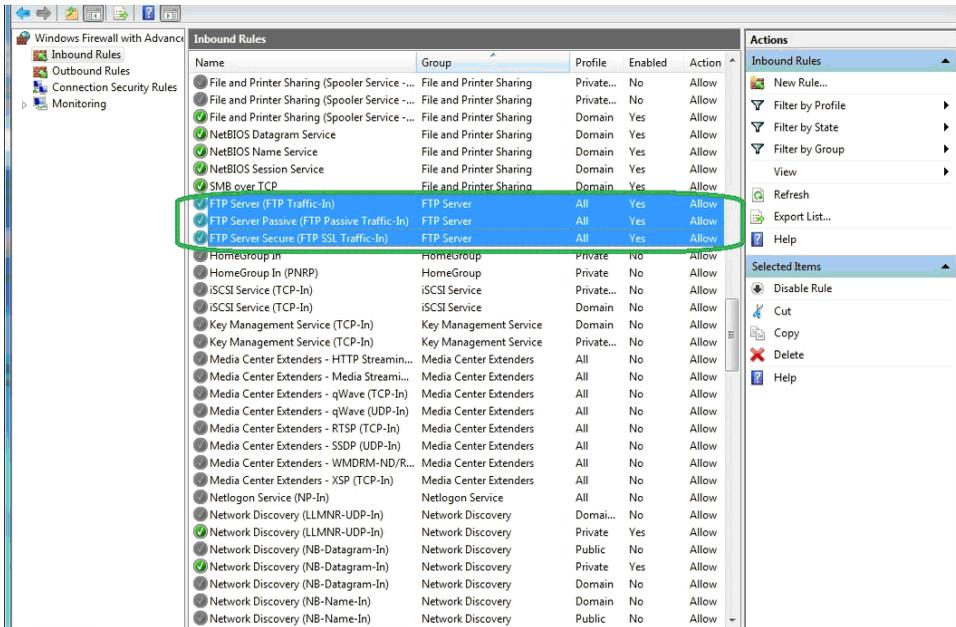

FIGURE 2-46 Windows® Firewall with Advanced Security - FTP Services Allowed
Step 2 Verify that the FTP server's firewall allows FTP traffic, as shown in FIGURE 2-46.